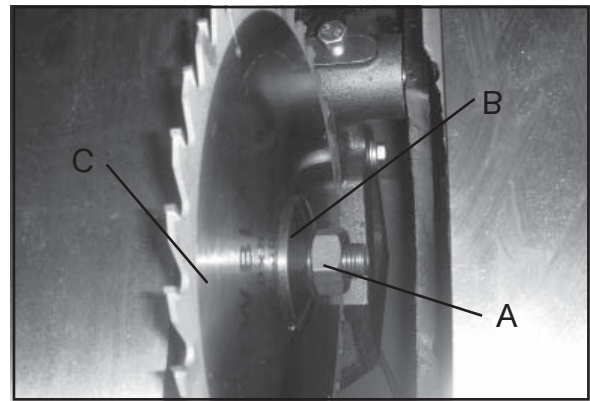

Figure 21
2. To install during initial assembly, remove the arbor nut (A, Fig. 21) and flange (B, Fig. 21) from arbor.
3. Place blade (C, Fig. 21) on arbor shaft making sure teeth point down at the front of the saw. Replace flange and arbor nut, tightening arbor nut toward the rear of the machine.